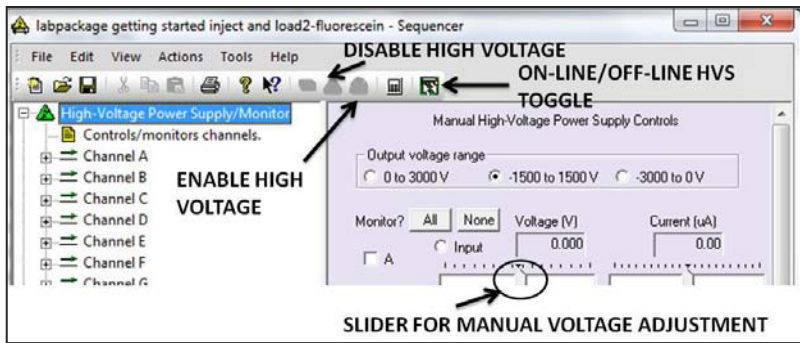

Figure 4. Sequence Software screen showing Enable, Disable and Manual mode.
CAUTION: The wires are now live and exposed, at high voltage. If at any time you need to touch the electrodes or reservoirs (such as to refresh the solutions), hit the **DISABLE** button shown in Figure 4.
- In Sequence go to the **High Voltage Power Supply Monitor** mode shown in Figure 4.